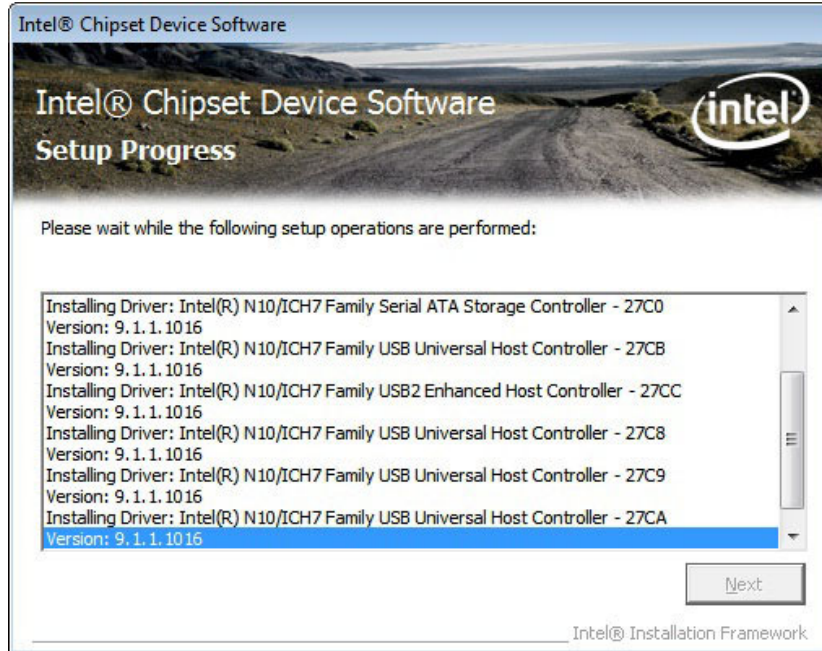

Figure 6-5: Chipset Driver Setup Operations
Step 14: Setup Operations are performed as shown in Figure 6-5.